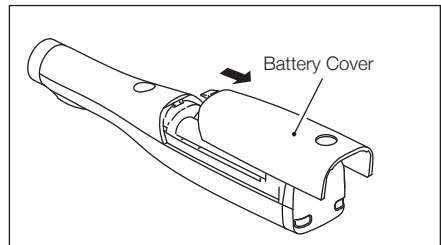

Fig. 15
4. Remove the battery cover by sliding it toward the charging terminal. (Fig. 15)